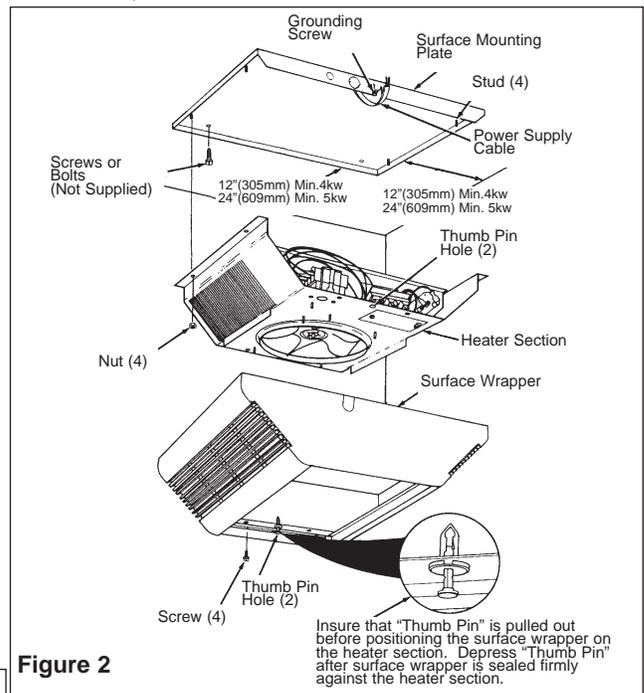

Figure 2
FAILURE TO INSTALL THE FOUR MOUNTING NUTS COULD RESULT IN THE HEATER FALLING. (SEE FIG. 2)
FAILURE TO INSTALL THE FOUR SCREWS, COULD ALLOW THE SURFACE WRAPPER TO FALL. (SEE FIG. 2)
6. Position the surface mounting plate against the ceiling and secure with bolts or screws (Figure 2). See Warning No. 9. Connect the ground wire to the green ground screw on the surface mounting plate.
10. Position the heater section over the studs on the surface mounting plate (Figure 2).
11. Push the heater section onto the studs and securely tighten four nuts (supplied) on the studs to secure the heater section to the surface mounting plate (Figure 2).
- NOTE:** Insure that the "thumb pin" in each end of the discharge grille opening is pulled outward to allow the body of the thumb pins to fit into the holes in the heater section. (Figure 2).
15. Install and securely tighten four screws (supplied) to secure the surface wrapper to the heater section (Figure 2).